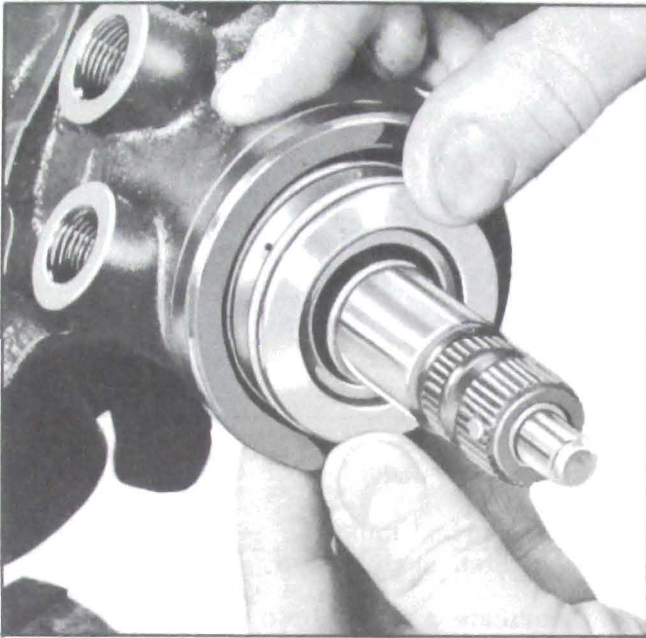
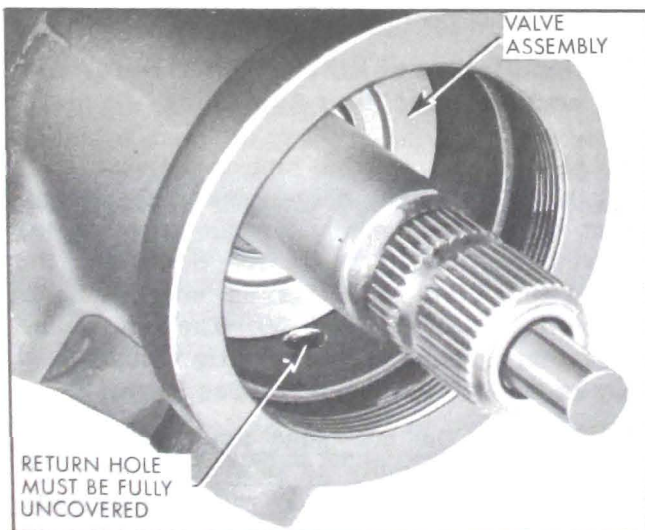

Figure 8-50—Installing Valve Assembly in Housing
Figure 8-51—Valve Assembly Properly Installed in Housing
1. Align the narrow pin slot on the valve body with the valve body drive pin on the worm. Insert the valve assembly into the gear housing by pressing against the valve body with the finger tips. Do not press on stub shaft or torsion bar. See Figure 8-50. The return hole in the gear housing should be fully visible when valve is assembled properly. See Figure 8-51.
2. Insert the valve assembly and worm in gear housing as an integral unit. Do not press on stub shaft or torsion bar. See Figure 8-50. Return hole in housing should be fully visible when valve and worm are properly installed. See Figure 8-51.